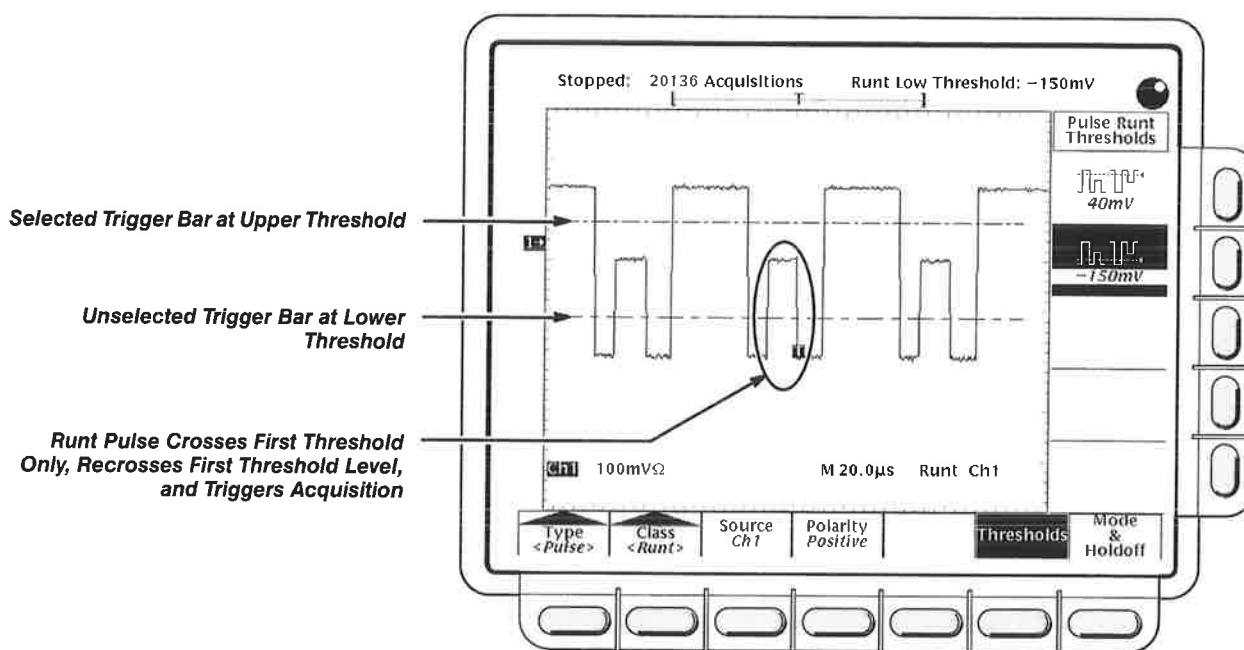

Figure 3-47: Main Trigger Menu—Runt Class
1. Press **TRIGGER MENU** → **Type** (main) → **Pulse** (pop-up) → **Class** (main) → **Runt** (pop-up) → **Source** (main) → **Ch1, Ch2, Ch3** (**Ax1** for the TDS 520), or **Ch4** (**Ax2** for the TDS 520) (side). (See Figure 3-47.)
Note the position of the trigger indicator in Figure 3-47. Triggering occurs at the point the pulse returns over the first (lower) threshold going negative without crossing the second threshold level (upper). Be aware of the following considerations when using Runt triggering: